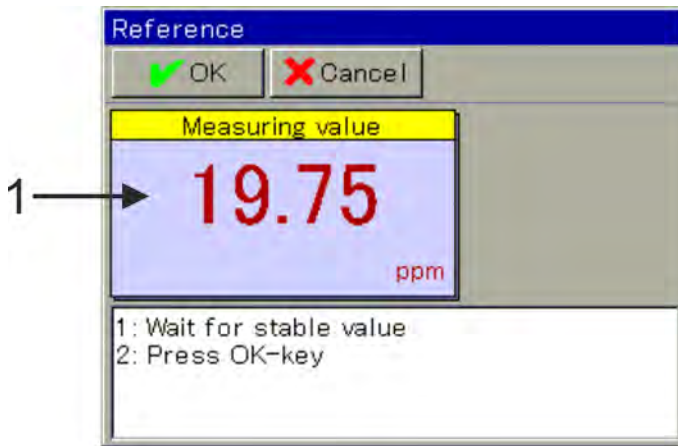

Fig. 83: Reading based on previous calibration values (1)
2. ➤ Clean the sensor and immerse it in the first test solution. Wait for a stable reading display, and confirm the measurement result with "OK" (See Fig. 83 .)